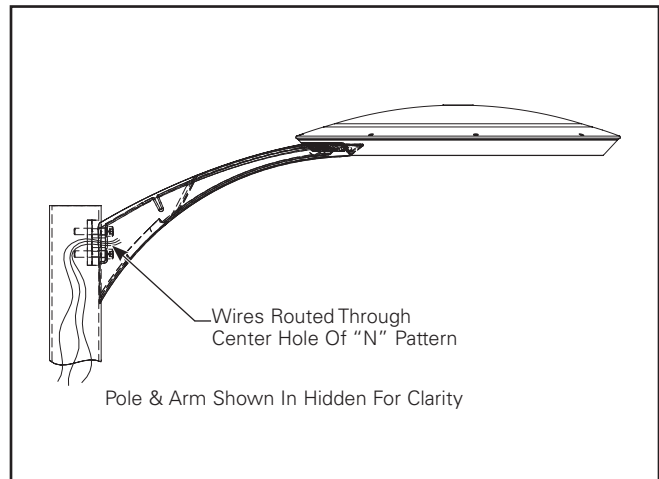

Figure 3.
**Wire Installation (Figure 3)**